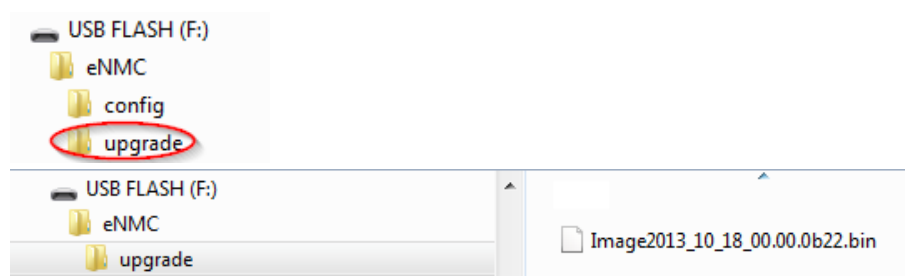

Figure 75. Root Directory of Flash Disk
3. Connect a USB drive to your computer and put the Image*.bin file in the eNMC/upgrade/ location on the USB drive root directory (see Figure 75).